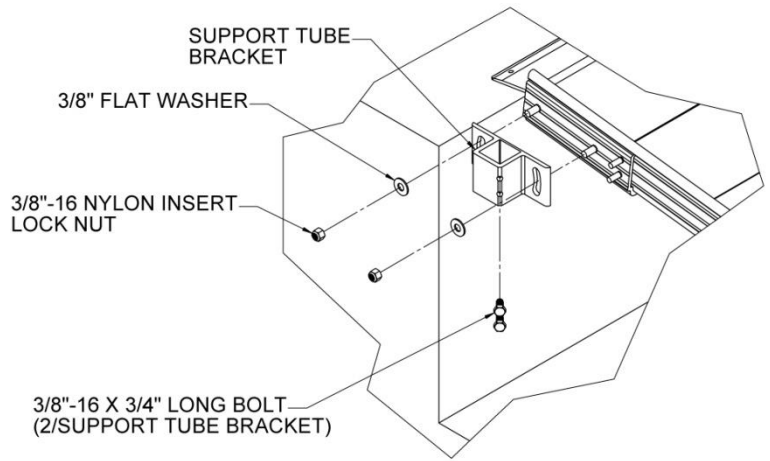

FIG. 6.14
- 6.3.3. Attach support tube bracket to the top support brackets using 3/8" nylon insert lock nuts and 3/8" washers. DO NOT TIGHTEN (FIG. 6.14).